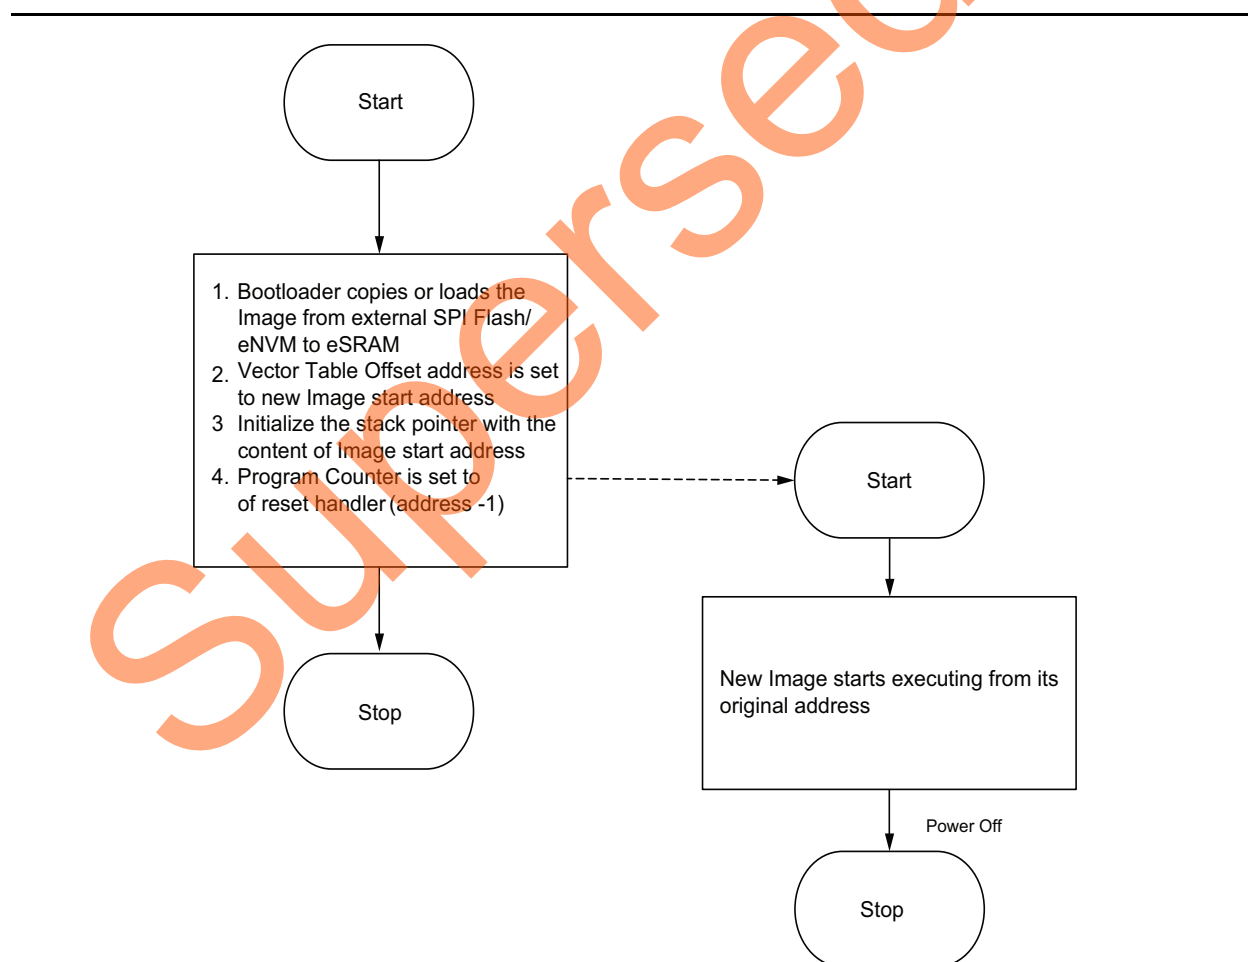

Figure 12 • Logic for Moving the Execution Control to New Image in eSRAM without Remapping
1. **Without remapping:** Using the vector table offset register in the system registers, the vector table address of the desired image can be set for execution, and point the stack pointer (SP) and the program counter to the reset handler of the desired image. This allows the Cortex-M3 processor to execute the new image. The eSRAM address should be used in the linker script generation for the executable images in this approach. This approach is explained in the flow chart shown in Figure 12.